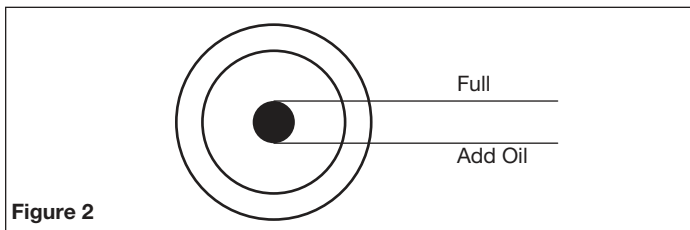

Figure 2
2. Remove pump fill plug and fill pump with 14.1 oz. of oil. Use full synthetic, non-detergent air compressor oil. Additives in regular oil can cause valve deposits and reduce pump life. For pumps with an oil sight glass, oil level can be monitored and maintained as shown in Figure 2.